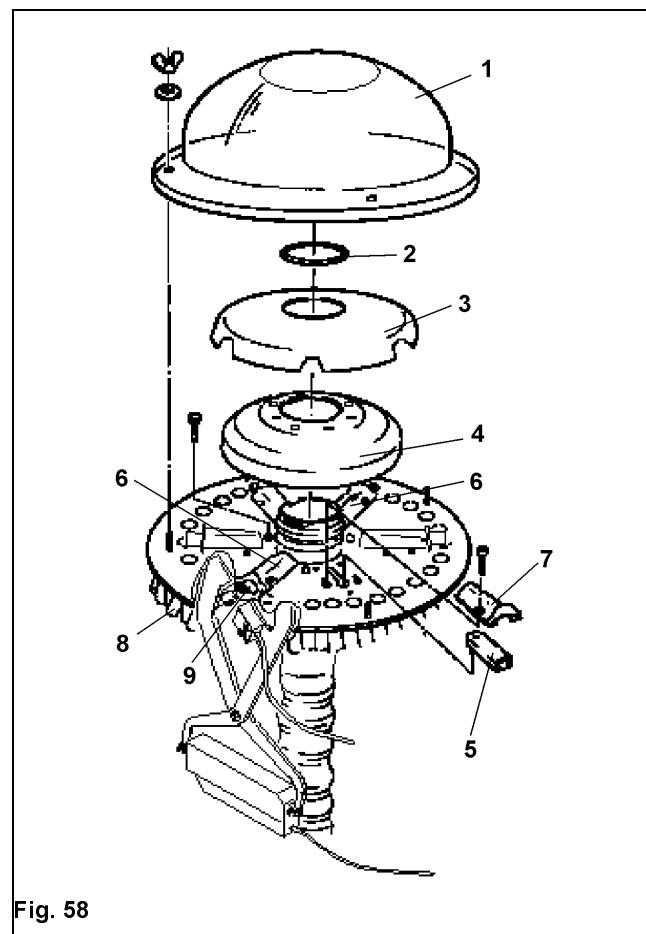

Fig. 58
On supply of the seed drill the tramline kit has been set to the wheel marks of your husbandry tractor. However, should it be necessary, e.g. when purchasing a new husbandry tractor, to set your tramline system onto the wheel marks of the new tractor, the seed tubes (Fig. 58/8) have to be interchanged for one another on the distributor head. Thereby it should be noted that the tramline coulters are fixed to such outlets which can be shut by the shutter slides (Fig. 58/9).
- Outer distributor hood (Fig. 58/1)
- O-Ring (Fig. 58/2)
- Inner distributor hood (Fig. 58/3) and
- Foam material insert (Fig. 58/4).
It is possible to fit up to 6 shutter slides. Always two shutter slides (Fig. 58/6) should be fitted on the base plate opposing each other. For mounting or dismounting the shutter slide (Fig. 58/5) the shutter slide funnel (Fig. 58/7) must be removed.
Insert not needed shutters (Fig. 58/1) in reverse order into the holes (Fig. 58/2) (parking position).